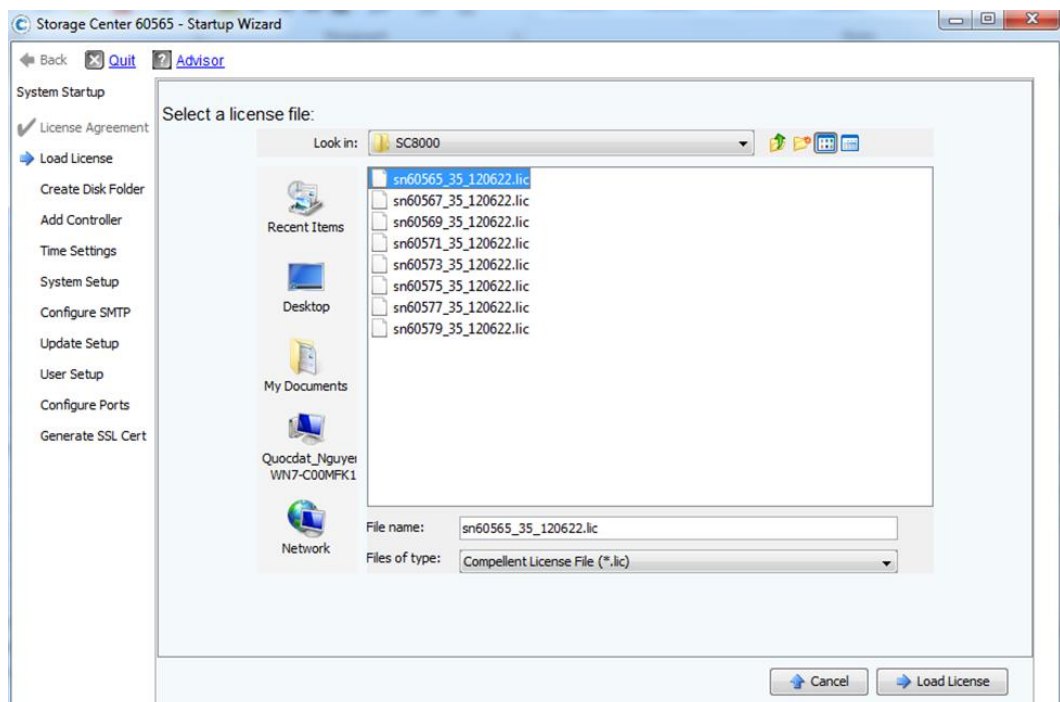

Figure 16. Load the license
1. Browse to and select the license file, and then click **Load License**, as shown in Figure 16.